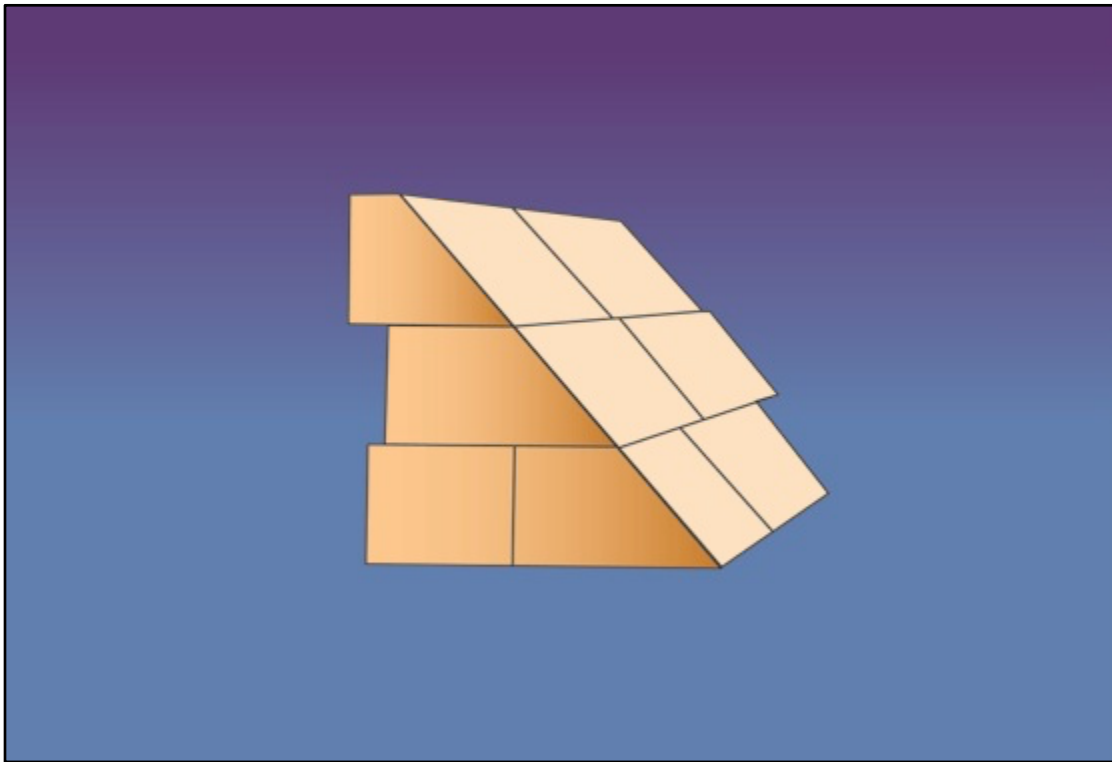

Figure 5. Fitted Casing Stones
- The white casing stones weighed between 16 to 20-tons each, were flat with a sloping front and with a mean variation of 1/100-inch over an area of 35-square feet (size of each block). Fitted together (Figure 5), the blocks maintained a gap of 0 to .020-inch that is comparable to the thickness of a fingernail. Modern quarries typically maintain tolerances of about 1/4-inch